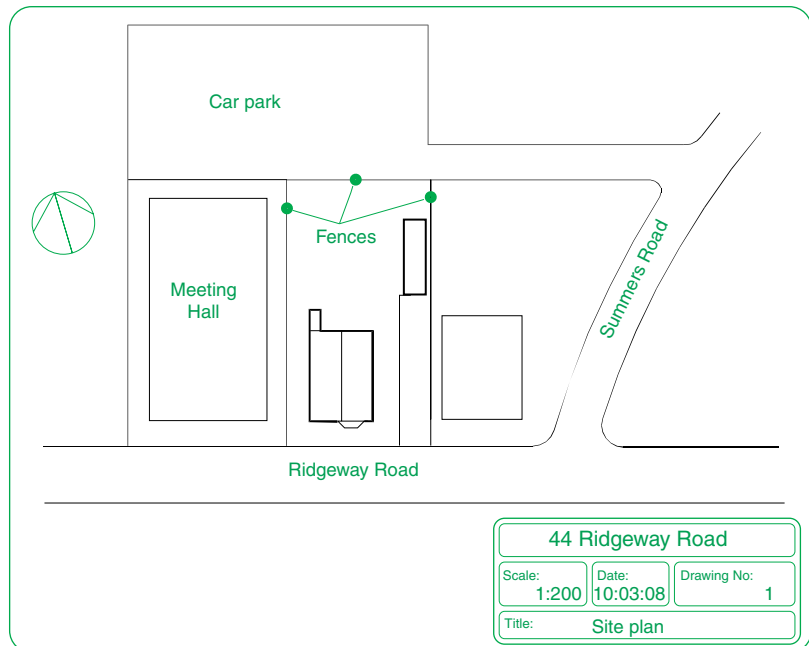

Fig. 12.1 A site plan
1. A site plan of the original two-storey house, drawn to a scale of **1:200** (Fig. 12.1).